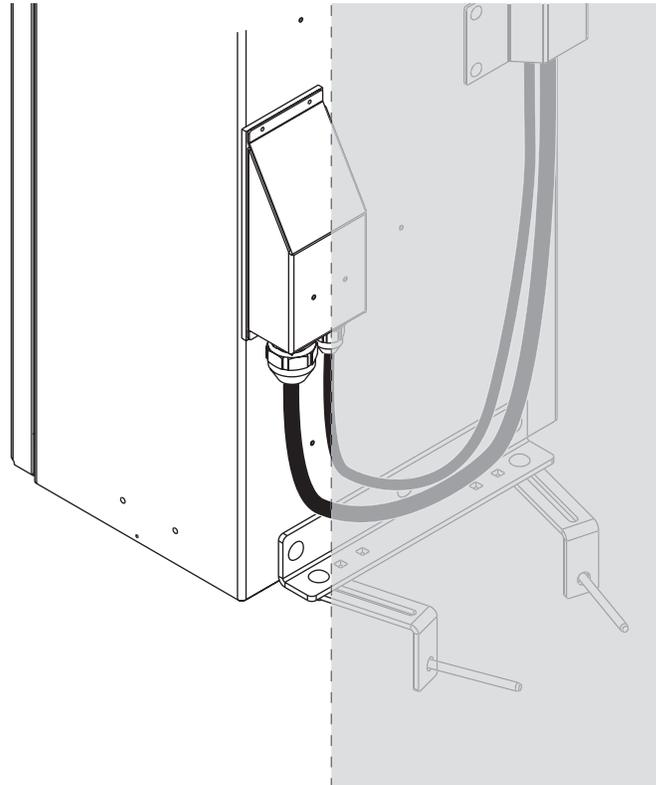

Figure 11— Route Cable from Pole-mounted Cabinet
- Step 5** Route cable as prescribed in your installation plan. Feeder and distribution cables are prerouted up the back of the cabinet for pole-mounted applications (Figure 11).